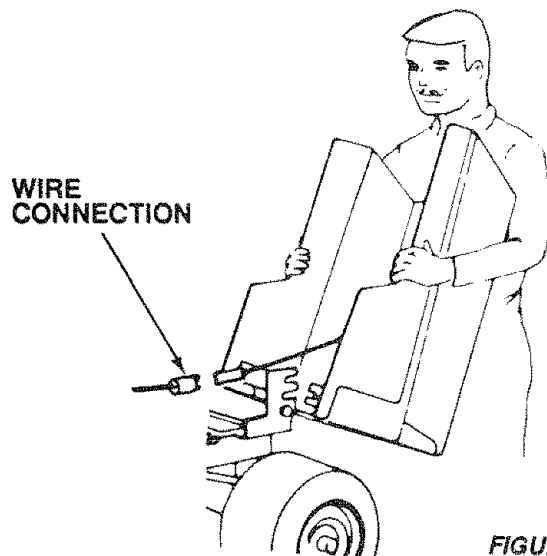

FIGURE 32
- a. Lift hood. Disconnect headlight wiring connection (Fig. 32).
- c. Pivot hood and side panel forward and lift off tractor (Fig. 32).